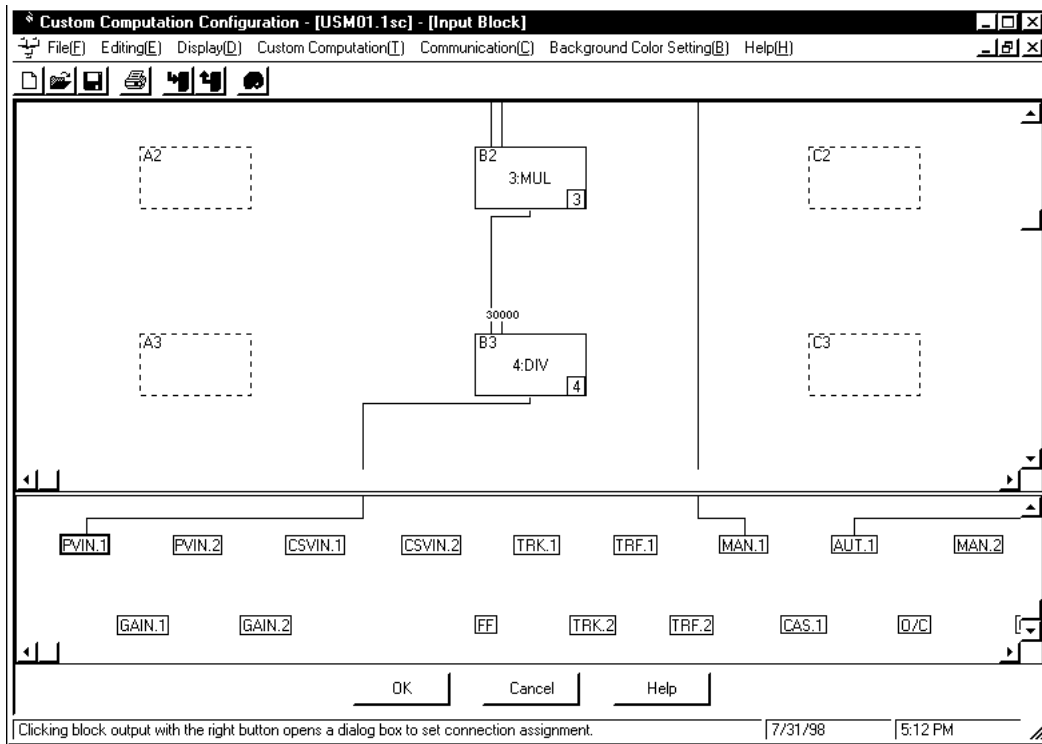
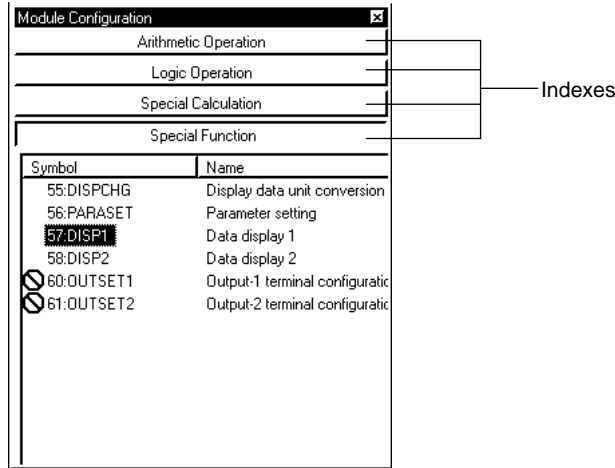
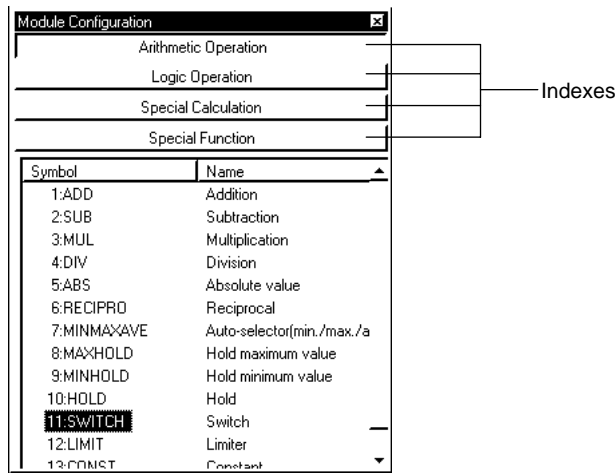

Figure 12.1.15 Example of the [Input Block] Dialog Box (finished view) Where Corrective Computation Is Applied to the PV Input
Figure 12.2.2 [Module Configuration] Dialog Box
Figure 12.3.2 [Module Configuration] Dialog Box
- ① In the [Input Block] dialog box (Figure 12.1.15), double-click a blank box. The [Module Configuration] dialog box (Figure 12.2.2) appears.
- ① Configure custom computations as per Section 12.1, “Example 1: Applying Corrective Computation to the PV Input.”
- ≠ In the [Input Block] dialog box (Figure 12.1.15), double-click a blank box. The [Module Configuration] dialog box (Figure 12.3.2) appears.